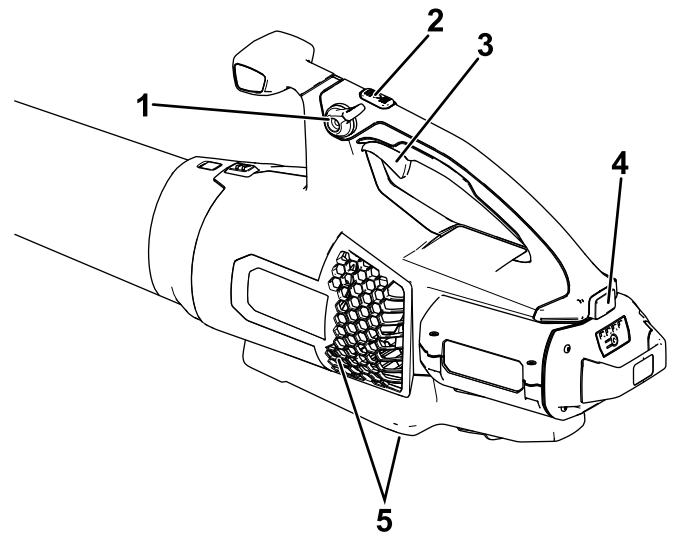

Figure 8
4. To start the blower, squeeze the variable-speed trigger (Figure 8).
**Note:** Engage the speed lock to keep the machine on without pressing the variable-speed trigger (Figure 8).
To achieve maximum performance (air speed), fully depress the variable-speed trigger, then press and hold the turbo boost button for the desired amount of time (Figure 8).
To adjust the air speed as you blow, use the variable-speed trigger (Figure 8).
To maintain the current air speed, engage the speed lock (Figure 8).
To shut off the blower, disengage the speed lock (if in use) and release the variable-speed trigger (Figure 8).